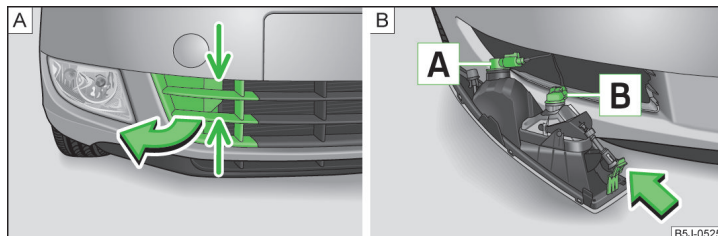

Fig. 165 Front bumper: Protective grille/removing the fog light
Bulb arrangement » Fig. 165
- Grasp the protective grille in the areas marked by the arrows » Fig. 165 - **[A]** and remove the cover in the direction of the arrow.
- Insert your hand into the opening in the protective grille and press the catch » Fig. 165 - **[B]** in the direction of the arrow.